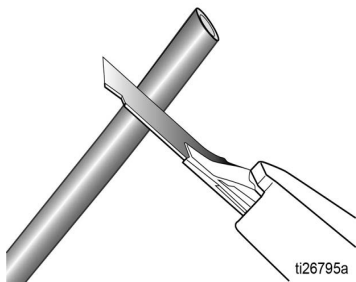

FIG. 1
3. Trim the end of the hose to ensure it is clean and straight (FIG. 1).